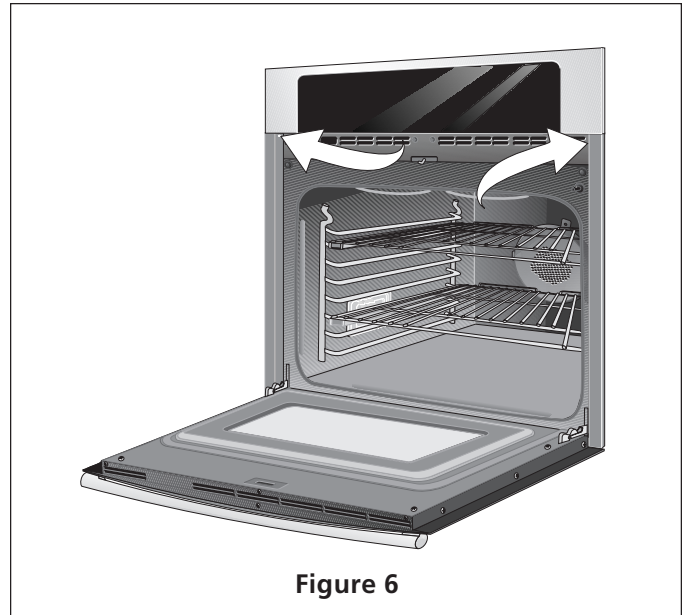

Figure 6
- A. The mounting holes in the side trims may be used as a template to locate the appliance mounting screw holes (see figure 6).